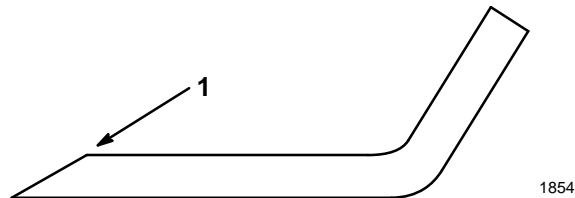

Figure 30
1. Use a file to sharpen the cutting edge at both ends of the blade (Fig. 30). Maintain the original angle. The blade retains its balance if the same amount of material is removed from both cutting edges.